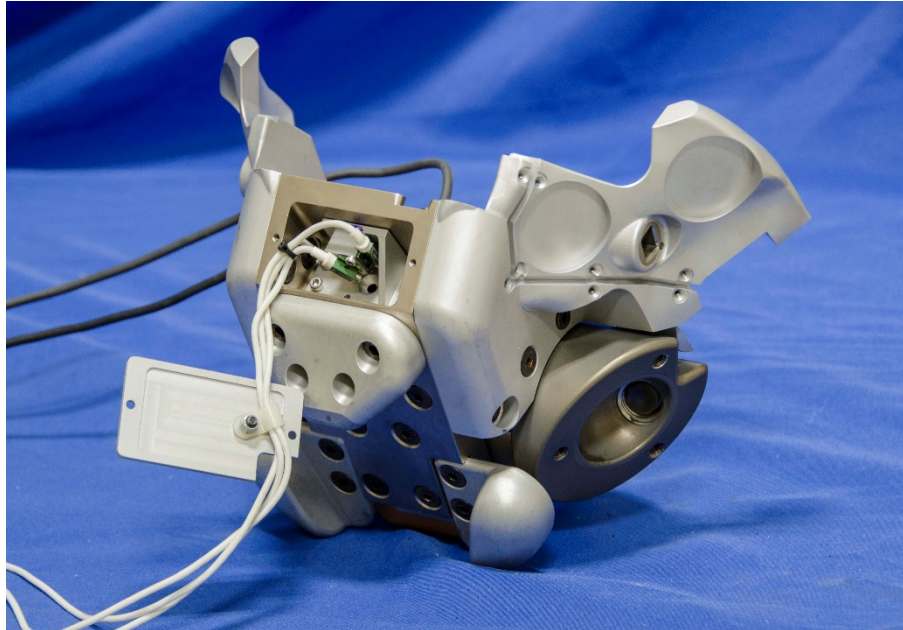
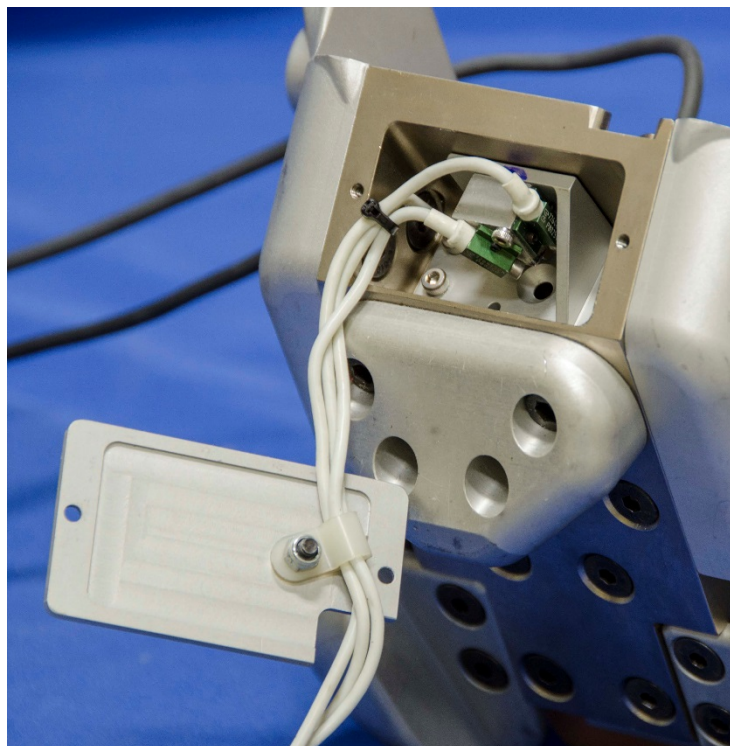

Figure 10-27. Provide strain relief for pelvic transducers
Figure 10-28. Details of pelvic strain relief wire clamp
- 10.2.2.18 Secure the triaxial accelerometer wires (and tilt sensor wire if used) to the inside of the Pelvis Triaxial Cover (472-4371) using a 1/8" Wire Clamp, M4 x 12 FHCS and a M4 Nylock nut (Figure 10-27 and Figure 10-28). Be sure to install a new nylock nut each time the nut is removed. Leave at least 100 mm of slack between the accelerometers and strain relief clamp.